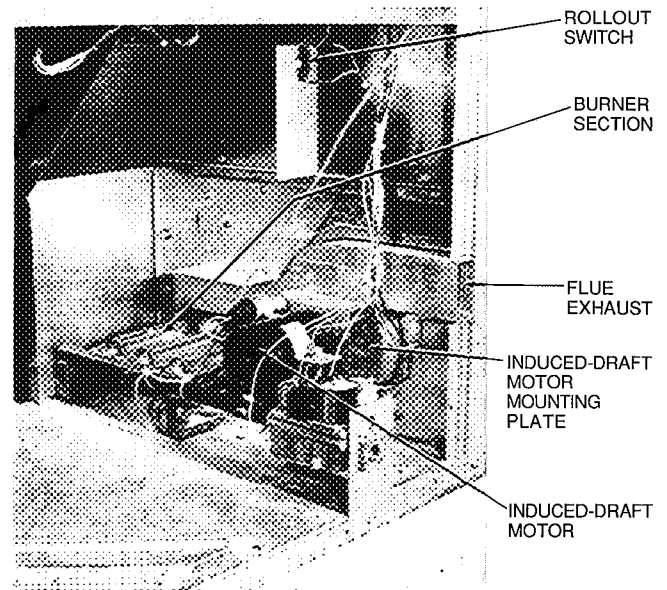

Fig. 32 — Burner Section Details
3. Remove the 7 screws that attach induced-draft motor mounting plate to blower housing (see Fig. 32).
REMOVAL AND REPLACEMENT OF GAS TRAIN (See Fig. 32 and 33.)